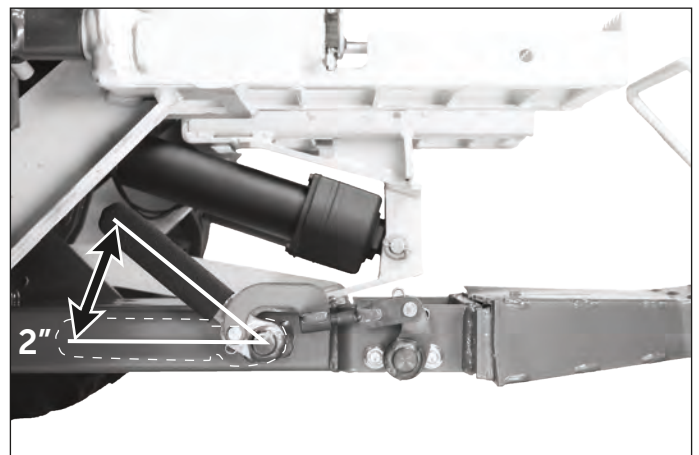

Figure 3.2
2. The hitch lock lever should travel approximately 2" at grip end after implement hitch adapter is fully seated on implement hitch tongue as shown in figure 3.2.